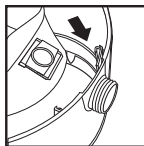

FIGURE 29
52. Slide the inlet deflector with the filter bag attached into the deflector guide. **FIGURE 29.**